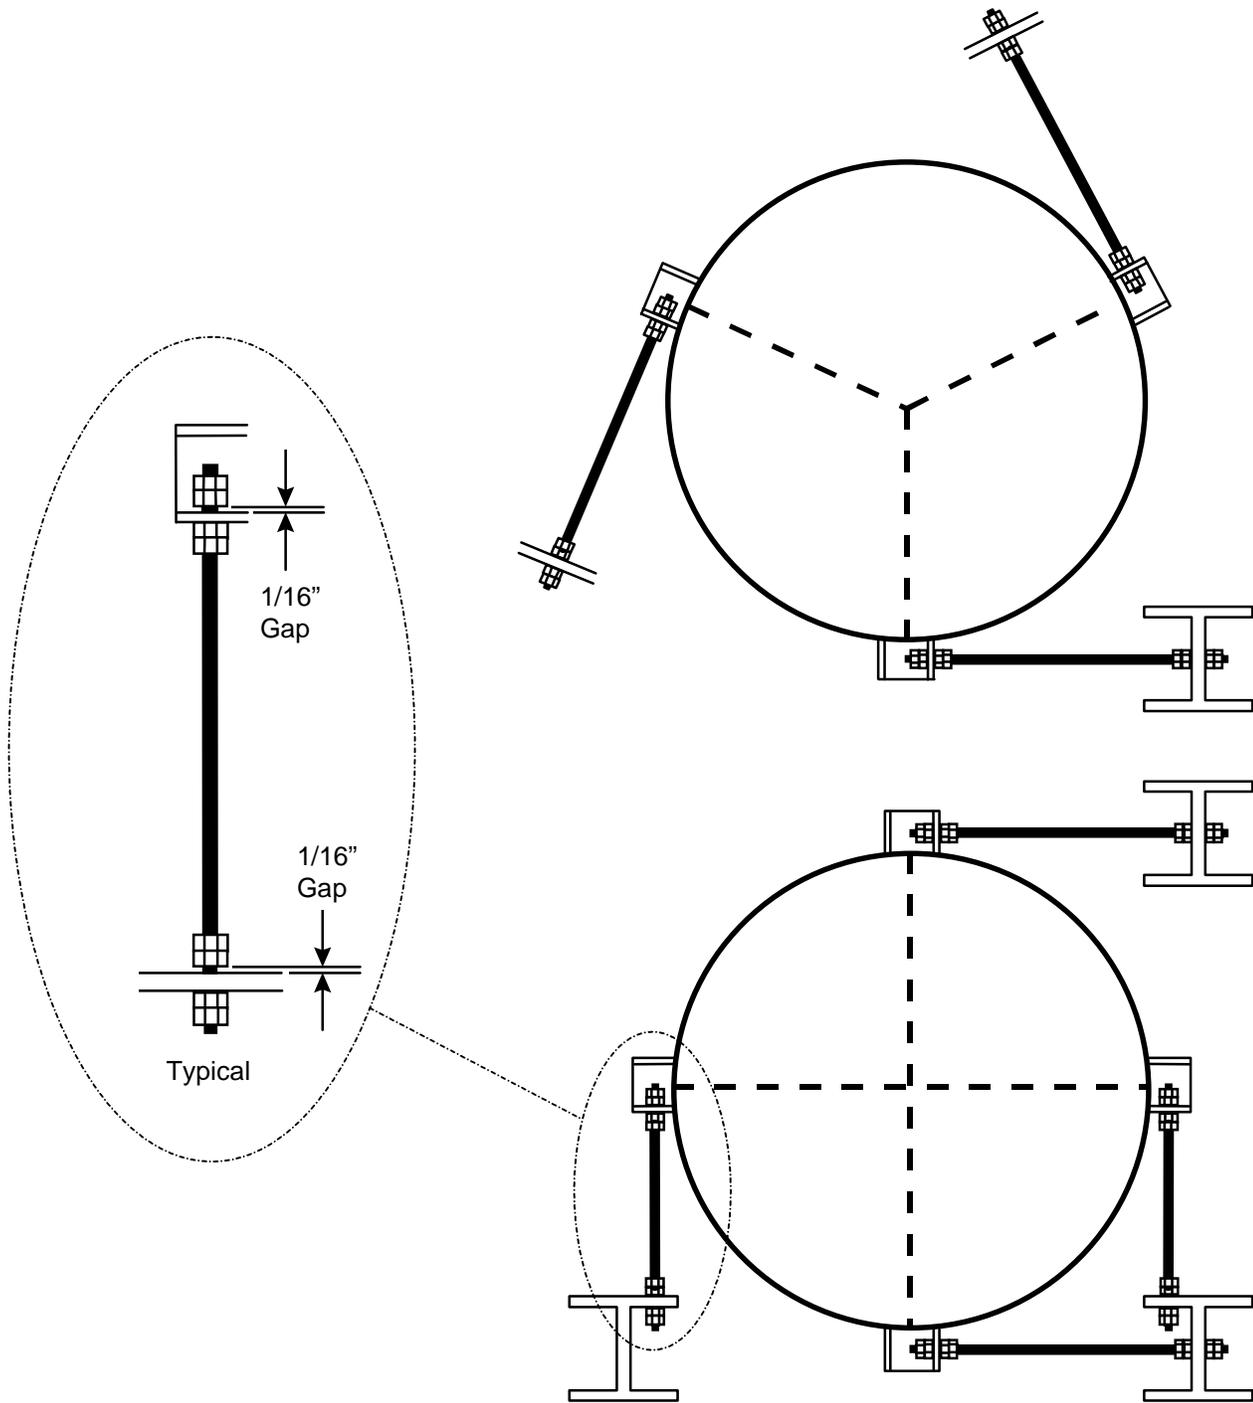
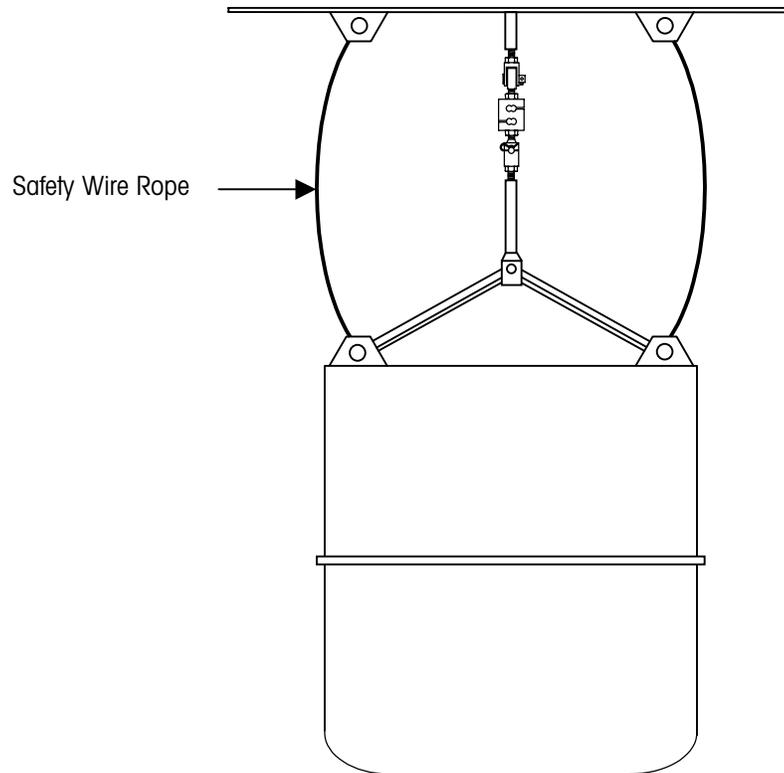

Figure 11-5: Plan View of Check Rods for Systems with Three and Four Weigh Modules
Figure 11-7: Sample Tension Weigh Module Installation
7. If the suspended tank is subject to horizontal movement, install check rods to limit horizontal movement to less than 1/8 inch. Figures 11-5 and 11-6 show typical check rod arrangements. Figures 11-7, 11-8, and 11-9 show typical tension weigh module installations.